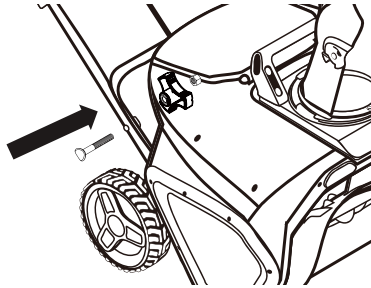

Fig. 2
2. Insert the handle locking bolt through the aligned holes from the inner side of the middle handle. Then insert the handle locking knob into the end of the bolt from the outside of the lower handle. (See Fig. 2)